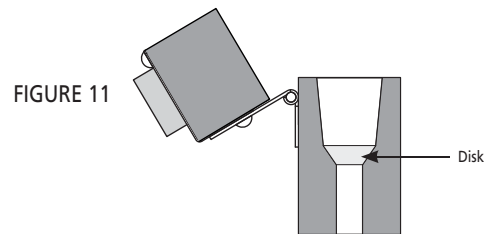

FIGURE 11
3. Insert one steel disk, dished (concave) side up, in the crucible to cover the taphole. **See Figure 11.**